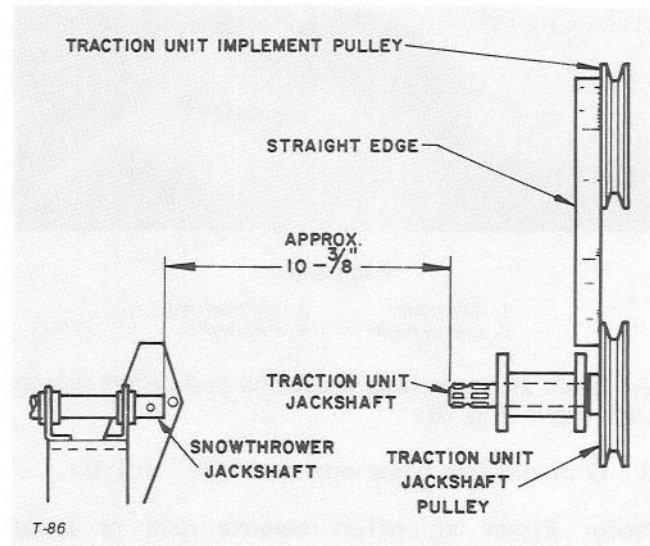

Figure 13
7. Lower snowthrower and measure distance between end of snowthrower input shaft and splined end of traction unit jackshaft (Fig. 13). Distance should measure approximately 10-3/8 inches. If distance is incorrect, loosen locking collars on traction unit jackshaft bearings, adjust
8. Place a straight edge against the face of the traction unit implement drive pulley and traction unit jackshaft pulley to check alignment (Fig. 13). If pulleys are misaligned, loosen set screws on jackshaft pulley and adjust pulley (Fig. 13). Remove set screws and coat them with Loc-tite #242 before tightening pulley to shaft.